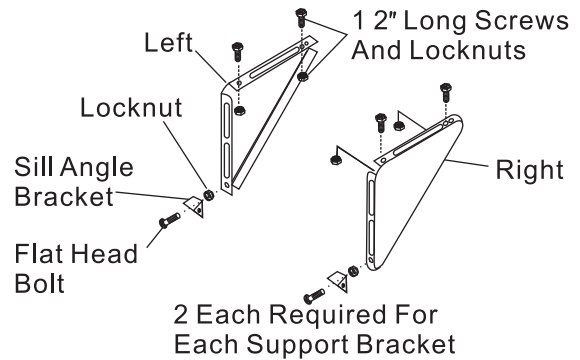

Fig.15B
2. Assemble sill angle bracket to support brackets at the marked position (Fig. 15B). Hand tighten, but allow for any changes later.